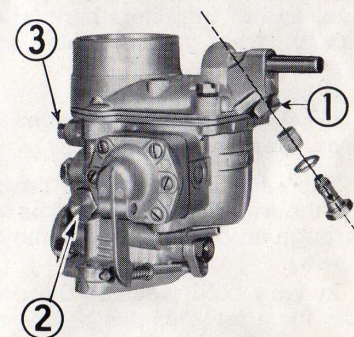

Figure 16
The Station-Wagon is fitted with a Solex 34 PBIC carburetor. This modern high precision unit will practically never lose its adjustment. The **original factory setting should never be changed**. They usually require no maintenance other than cleaning the filter screen when necessary. This is done by dipping the screen in gasoline and cleaning it off by an air blast. To remove the filter loosen nut **1** (fig. 16).
- the main jet **2** (fig. 16);
- the idling jet **3** (fig. 16).